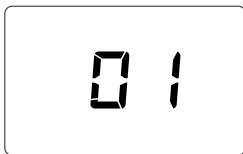

fig. 5- Switching on / Software version
- During the first 5 seconds the display shows the P.C.B software version (fig. 5).